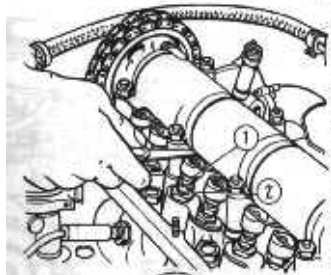

Figure 33. Adjusting valve clearances: 1- adjusting bolt, 2- adjusting bolt locknut
- Adjust the rocker-to-cam clearances of the exhaust valve on the No. 4 cylinder (8th cam) and of the intake valve on the No. 3 cylinder (6th cam); for this purpose, loosen locknut 2 (Fig. 33) and rotate adjusting bolt 1 to set the required clearance, using a flat feeler gauge inserted between the cam and the rocker (the feeler gauge should move in this case with a slight biting)